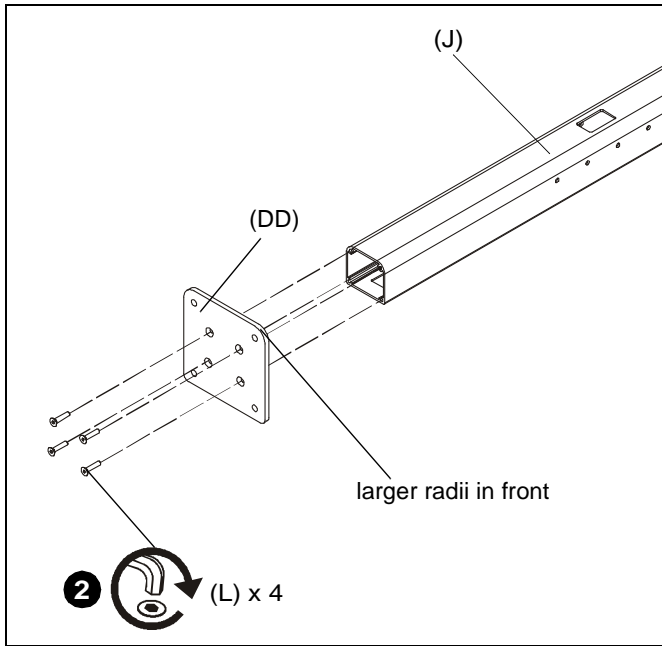

Figure 1
1. Lay array columns (M) down on a flat surface.
2. Use four 5/16-18 x 1 1/2" flat head cap screws (L) to connect each bolt down plate (DD) to each column (J). (See Figure 1)